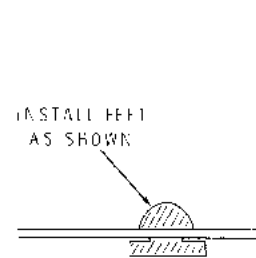

Figure 17
- () Install the rubber feet in the bottom of the cabinet as shown in Figure 17.